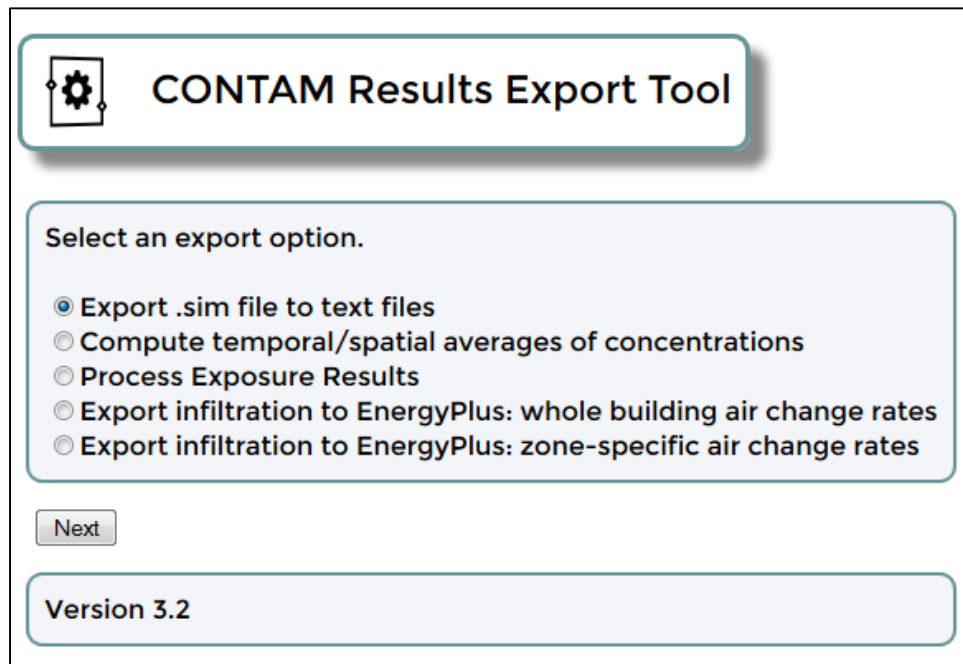

Figure 1. CONTAM Results Export Tool user interface (or “Home Screen”)
CONTAM is a multizone indoor air quality and ventilation analysis program developed by the National Institute of Standards and Technology (NIST) (Dols and Polidoro 2015). CONTAM generates a wide range of different simulation outputs in the form of binary and text-based files. CONTAM provides the ability to view a limited set of these results via the CONTAM graphical user interface, but many users require access to a much broader range of results. The CONTAM Results Export Tool (subsequently referred to as “Export Tool”) was created to provide access to all of the results that can be generated by a CONTAM simulation. It does so by reading the binary result files and converting them to tab-delimited text files that can be read using a spreadsheet program. The results that can be exported include contaminant concentrations; zone temperatures; weather conditions; airflows through individual paths, ducts and duct leakages; temporal and spatial averages of zone concentrations; and exposure results. The Export Tool also includes the ability to export infiltration rates for use in simulations performed with the EnergyPlus whole-building energy simulation program. This document describes five features of the Export Tool: (1) general conversion of binary results to text, (2) computing temporal and spatial averages of zone contaminant concentrations, (3) exporting occupant exposure results, (4) exporting whole-building air change rates from a CONTAM simulation for use in EnergyPlus, and (5) exporting zone-specific air change rates from a CONTAM simulation for use in EnergyPlus. The Export Tool is available, along with CONTAM and other NIST-developed software, on the NIST Multizone Modeling Website <http://www.bfrl.nist.gov/IAQanalysis>. The user interface (or “Home Screen”) is shown in Figure 1.
1. On the CONTAM Results Export Tool Home Screen (Figure 1), select the “Export .sim files to text files” radio button then click the “Next” button.
1. On the CONTAM Results Export Tool Home Screen (Figure 1), select the “Compute temporal/spatial averages of concentrations” radio button then click the “Next” button.
1. On the CONTAM Results Export Tool Home Screen (Figure 1), select the “Process exposure results” radio button then click the “Next” button.